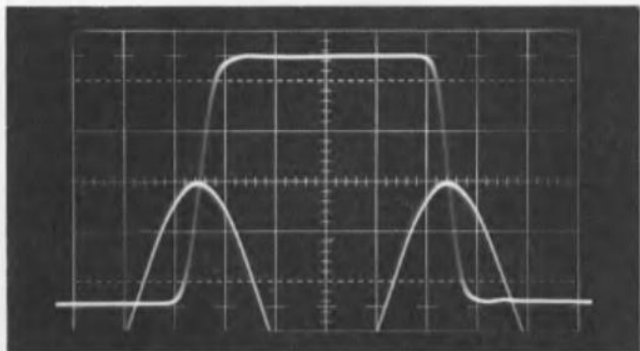

Fig. 4-15. Crt display for proper setting of 100 nS Pulse Width capacitor C195F.
- Set the SWEEP MAGNIFIER control to X5. Use the HORIZONTAL POSITION and TRIGGERING LEVEL controls to obtain the display shown in Fig. 4-15.